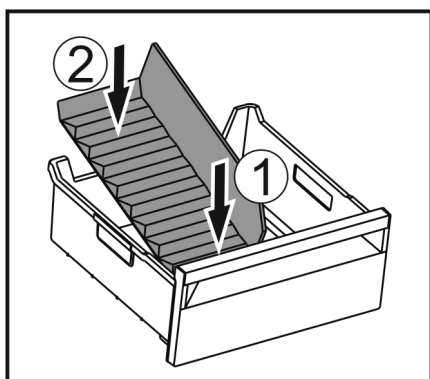

Fig. 139
- Insert the front part of the ice compartment divider. Fig. 139 (1)
- Lower the rear part of the ice compartment divider to the drawer bottom. Fig. 139 (2)